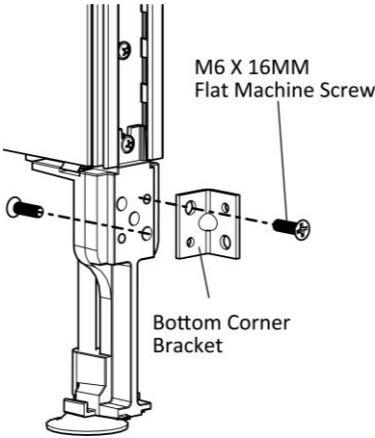

Figure 3
- Position and securely fasten the bottom corner bracket into the panel leg of the third panel with two M6 X 16MM Flat Machine Screws, (Figure 3).